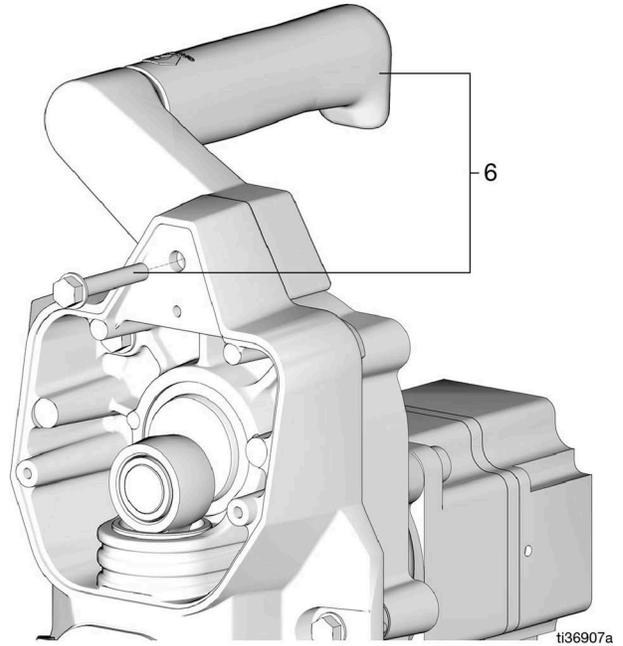

FIG. 13
- Secure the handle (6) using the screw (6) and tighten securely (FIG. 13).